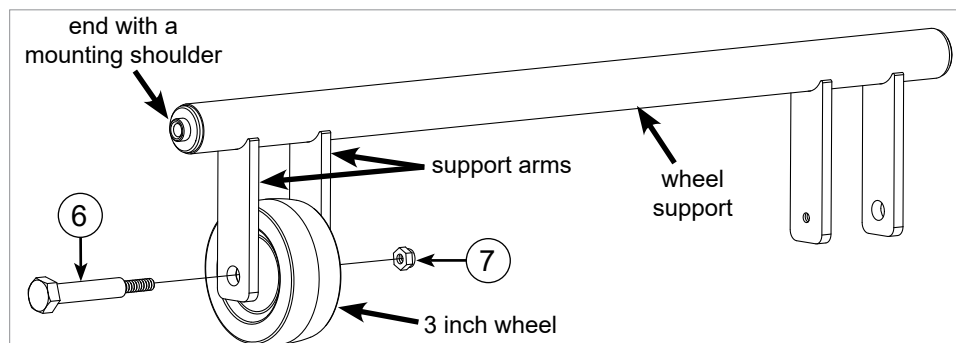

Fig. 28
10. Locate the wheel support and the two 3 inch wheels. Note that one end of the wheel support has a mounting shoulder and the other end does not. Mount one of the 3 inch wheels between the two support arms nearest the end of the wheel support that has the mounting shoulder using a fixed wheel axle and an M6 lock nut from the hardware pack (see Fig. 28). The fixed wheel axle passes through the outer support arm and threads through the inner support arm. Fully tighten the nut using a 17 mm wrench and a 10 mm wrench.